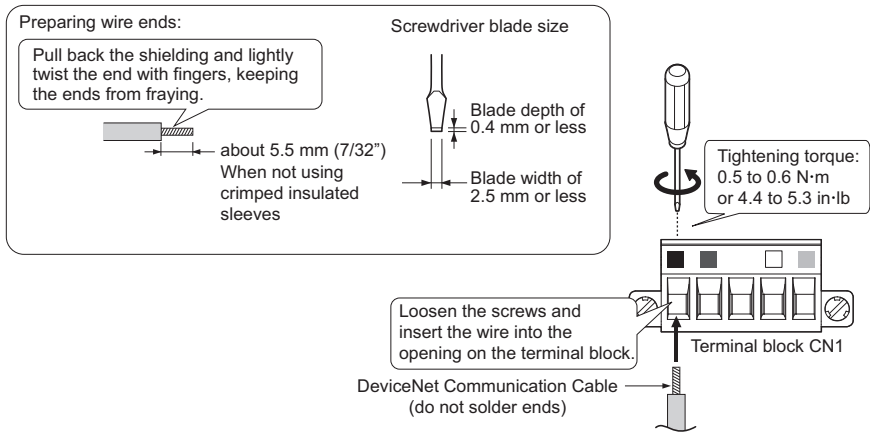

Figure 18 Connect Cable Wiring
2. Connect the communication cables to the terminal block as shown in **Figure 18**. When attaching the CN1 connector plug on the terminal block to the socket, make sure the screws on the left and right sides of the plug are tightened with a tightening torque of 0.5 to 0.6 (N·m) or 4.4 to 5.43 (in·lb).